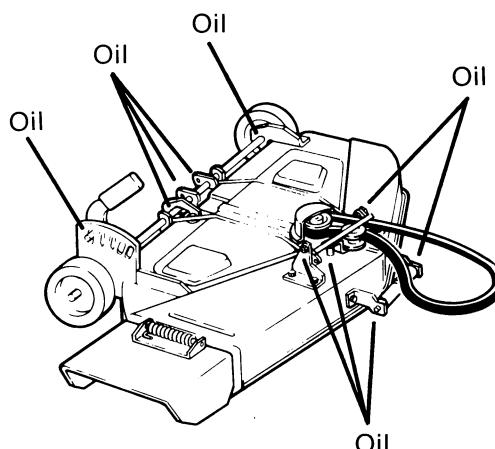

FIG. 13
b. **General:** Apply oil to all pivot points and linkages indicated in (Fig. 13) to reduce wear and assure free movement. Be sure linkages are clean before applying oil.